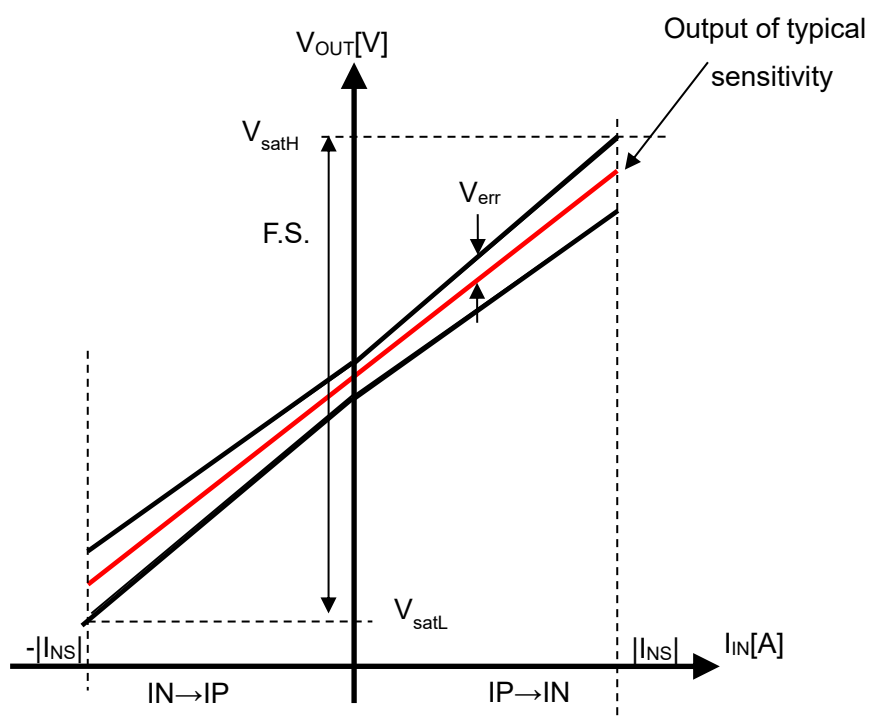

Figure 4. Total Accuracy of CZ-3AG3
10.2. Total Accuracy E_{total} [%F.S.] is defined as below (See Figure 4.)